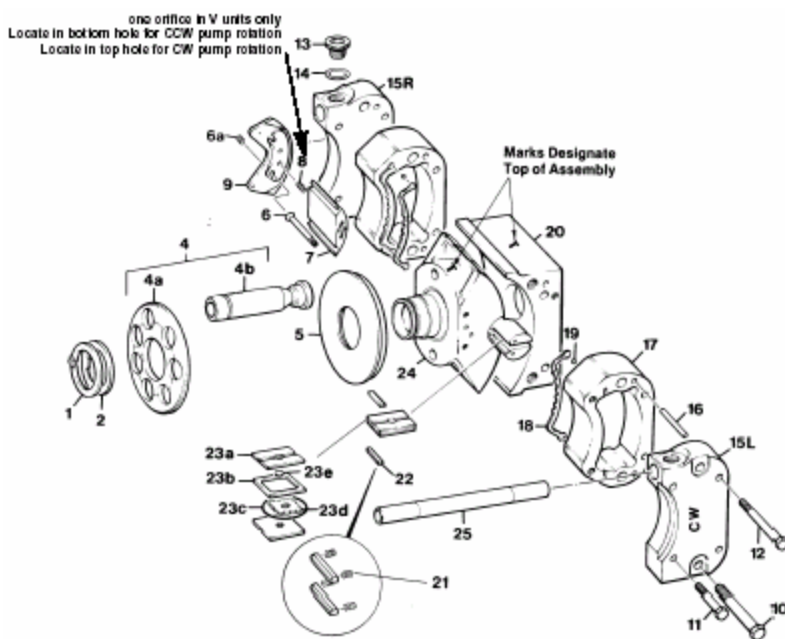

Figure 3
items 6 through 24, figure 3
item 4 figure 3
See Figure 3. Position the cradle (20) on a clean flat surface with the large flat area down.
Install assembled cartridge in slot in cam as indicated in figure 3. Repeat on opposite side of cam.
For "P" and "D" units, install two orifice screws (8) in the servo stem (7). For "V" units, install one orifice, as indicated in Figure 3.